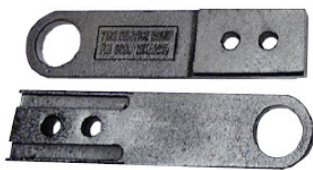

Fig. 6
11. The pull handles in back are angled to rest the unit on its back without crushing or pinching your fingers as you use the upper hand to pivot it with. See Fig. 6